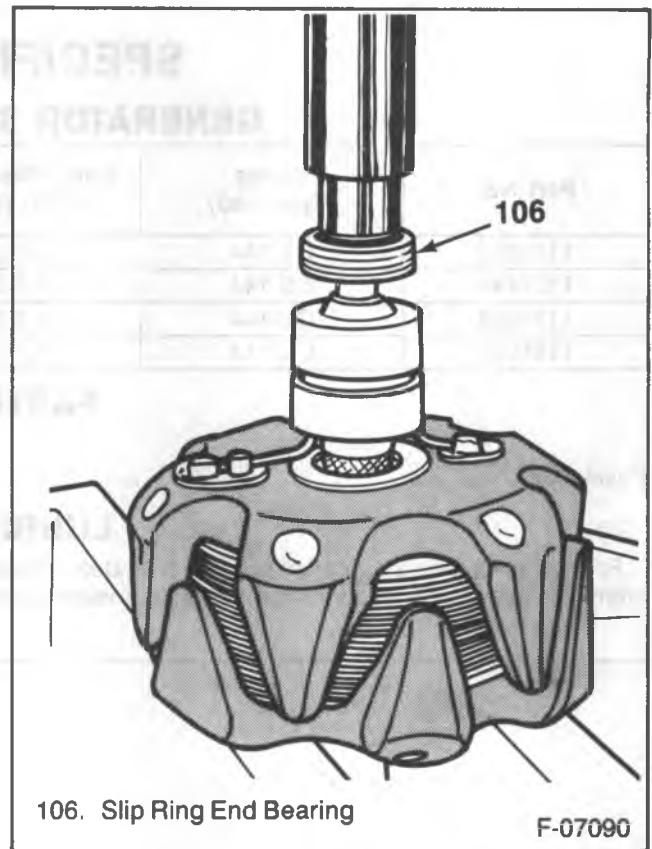

Figure 14—Installing the Slip Ring End Bearing
9. Brushes (130) into the brush holder (131).
10. Stator (220) into the end frame, aligning the three stator leads to the three rectifier bridge terminals (figure 14).